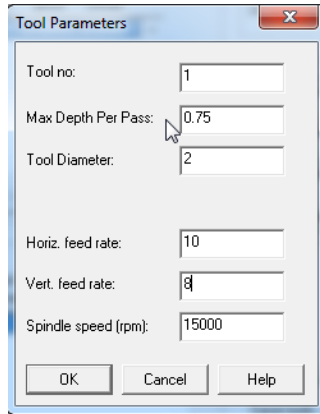

Figure 14
The cutting tool used is a 2mm slot drill. The cutting depth per pass is .75mm with a feed rate of 10mm/s (Figure 14).
- Set the parameters as shown in figure 14